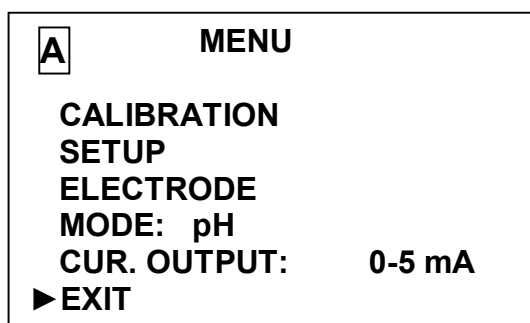

Figure 1.11
1.5.5.3 Using **MENU [A]** and **MENU [B]** screens (Fig. 1.11)